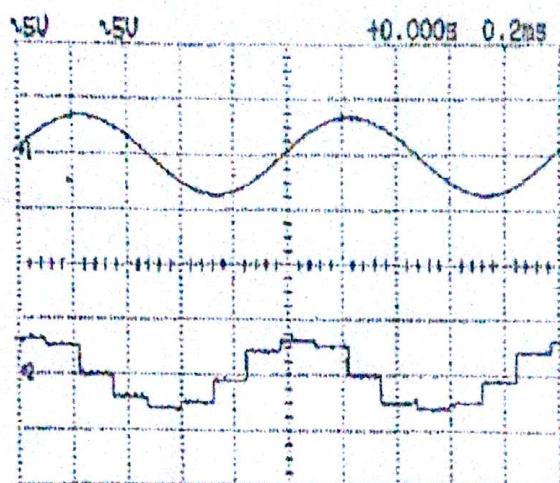

Figure 5-11. Message Signal(above) & D/A conversion demodulation output(below)
(17) Connect SYNC. CLK, CLK×4, and PCM OUTPUT of DECODER to SYNC. CLK, CLK×4, and PCM INPUT respectively. And then connect J3 terminal and J4 terminal.
(18) If we set INPUT COUPLING of oscilloscope CH-1, 2 to AC and connect each probe to TPI and J3 terminal of PCM I, wave form of figure 5-11 would be appeared in oscilloscope screen. At that time, set TIME/DIV of oscilloscope to 50[μ s].